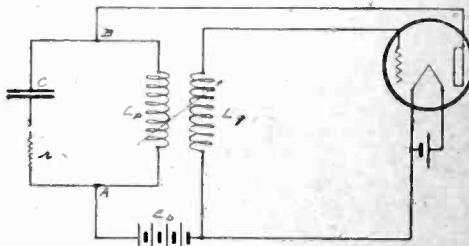

Fig. 9. Generating Circuit With Coupled Grid and Plate Inductances.
**GRID POTENTIAL AND COUPLING.** In the Hartley circuit of Fig. 7 the instantaneous grid potential is determined by the potential across  $L_g$ . This potential is a function of  $L_g$  and the current flowing in this coil. Here,  $L_g$  and  $L_p$  are not mutually coupled. Referring to the circuit of Fig. 9, it will be seen that
By definition, the mutual inductance of two coils such as  $L_g$  and  $L_p$  of Fig. 9 is the number of interlinkages of magnetic flux from coil  $L_p$  with  $L_g$  per ab-
Suppose the circuit of Fig. 9 is generating oscillations of maximum strength. If the mutual inductance between  $L_p$  and  $L_g$  is decreased by separating the two coils the alternating potential induced in  $L_g$  is decreased. By virtue of the controlling action of the grid, this decrease in coupling results directly in a decrease in the amplitude of the plate current wave and a decrease in the variation of plate potential across  $L_p$ . This results further in a decrease in the strength of oscillations until a condition of stability ensues for the particular value of coupling between  $L_p$  and  $L_g$ . As the coupling is further decreased the oscillations will become weaker and weaker and finally stop at a particular value of coupling which is determined by the condition that for oscillations to exist, the mutual conductance of the tube must be at least equal in numerical value to a factor depending upon the constants of the external plate circuit and the particular value of mutual inductance between  $L_p$  and  $L_g$ . Once oscillations are stopped by decreasing the coupling, they will not again start until the coupling is increased appreciably beyond the previous stopping point.